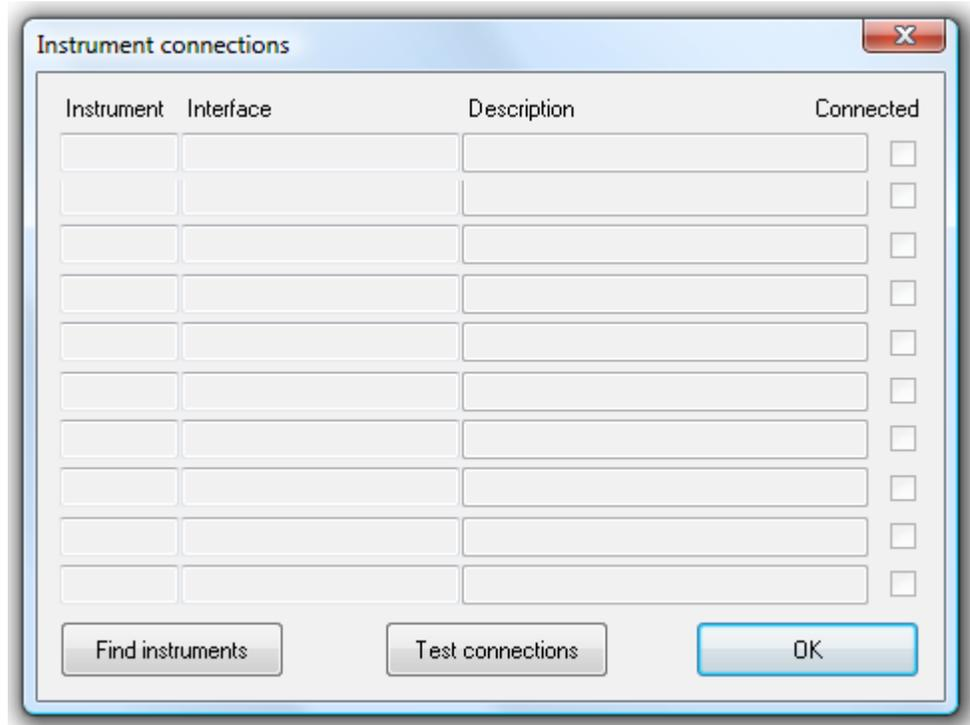

Figure 3-1, Instrument Connections Dialog Box- No Instruments Available
- 2) Call **ConfigureInstruments** This will display a dialog box similar to that shown in figure 3-1 below, with no entries on the first occasion it is called.